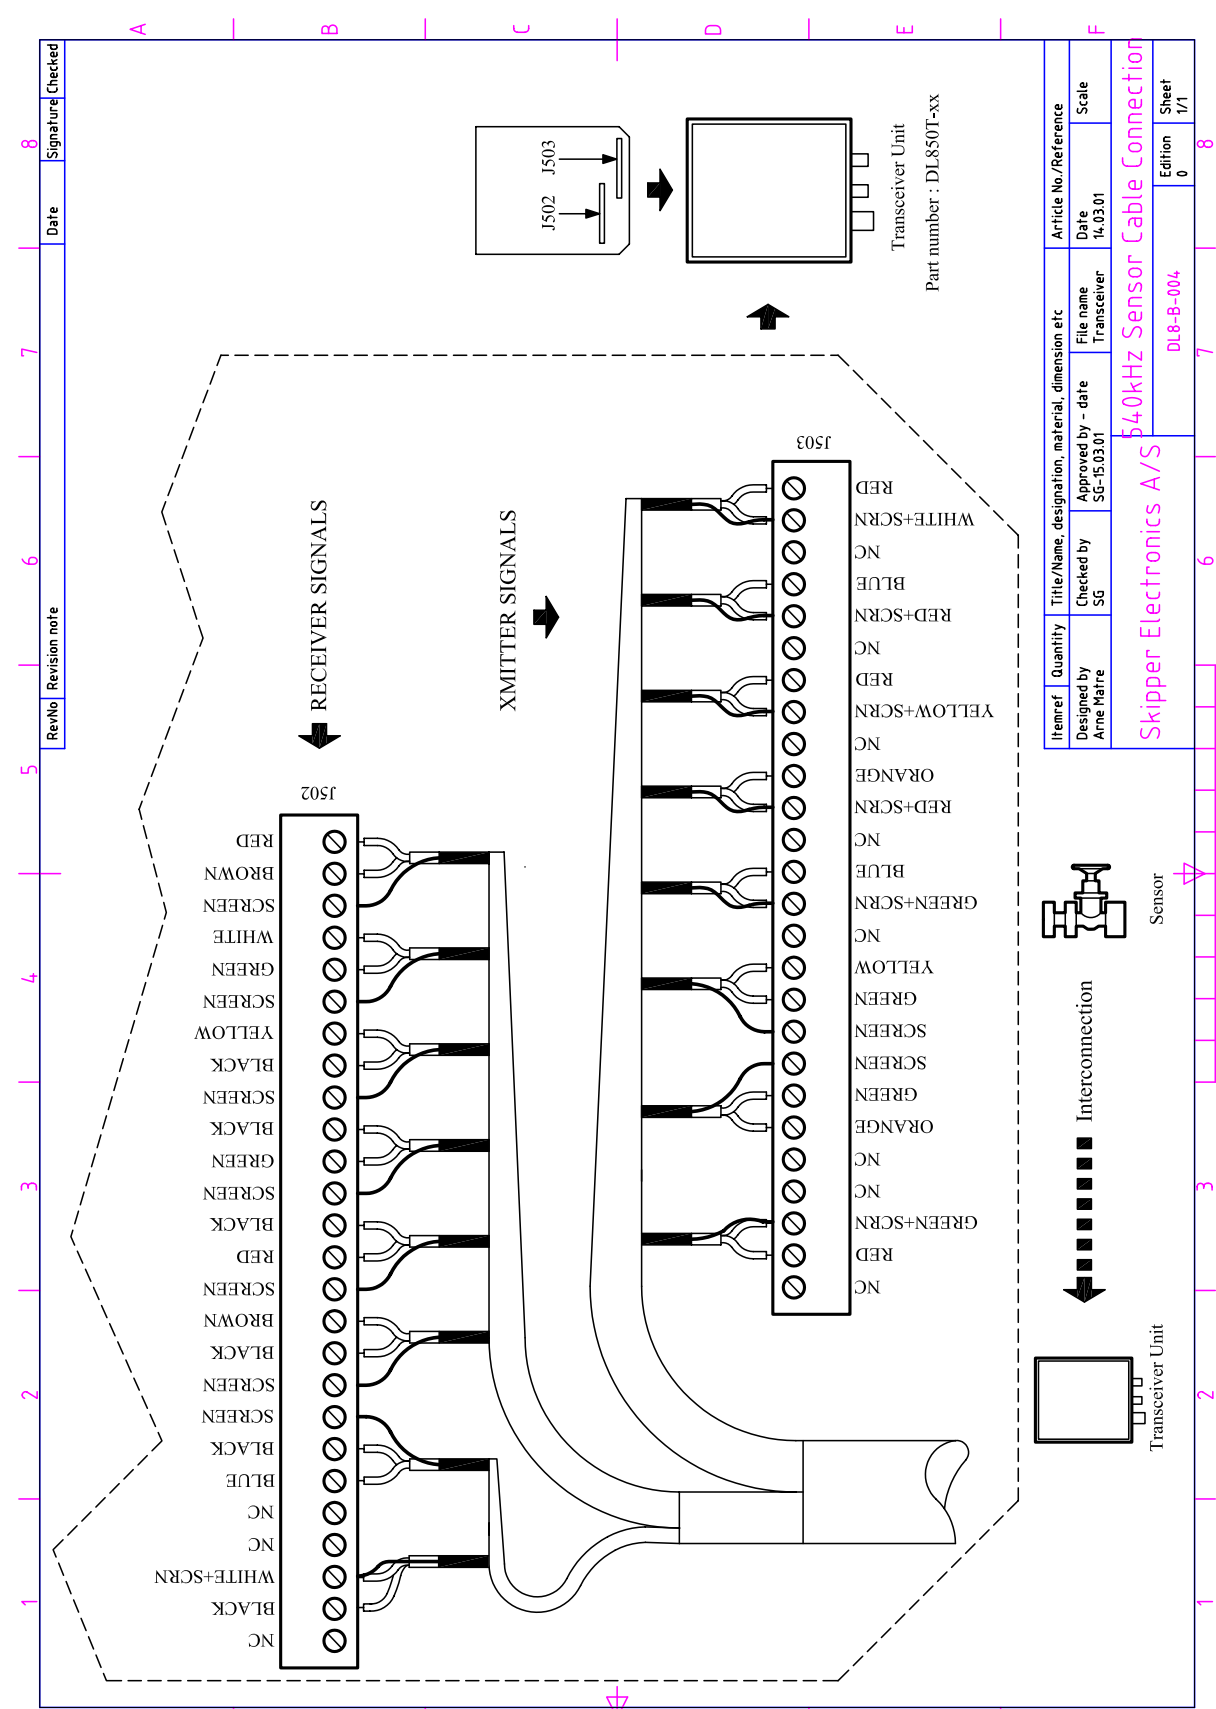

Fig. 10.5. 540 kHz Sensor Cable Connection
- Fig. 10.5. Interconnection diagram between sensor and the transceiver unit.